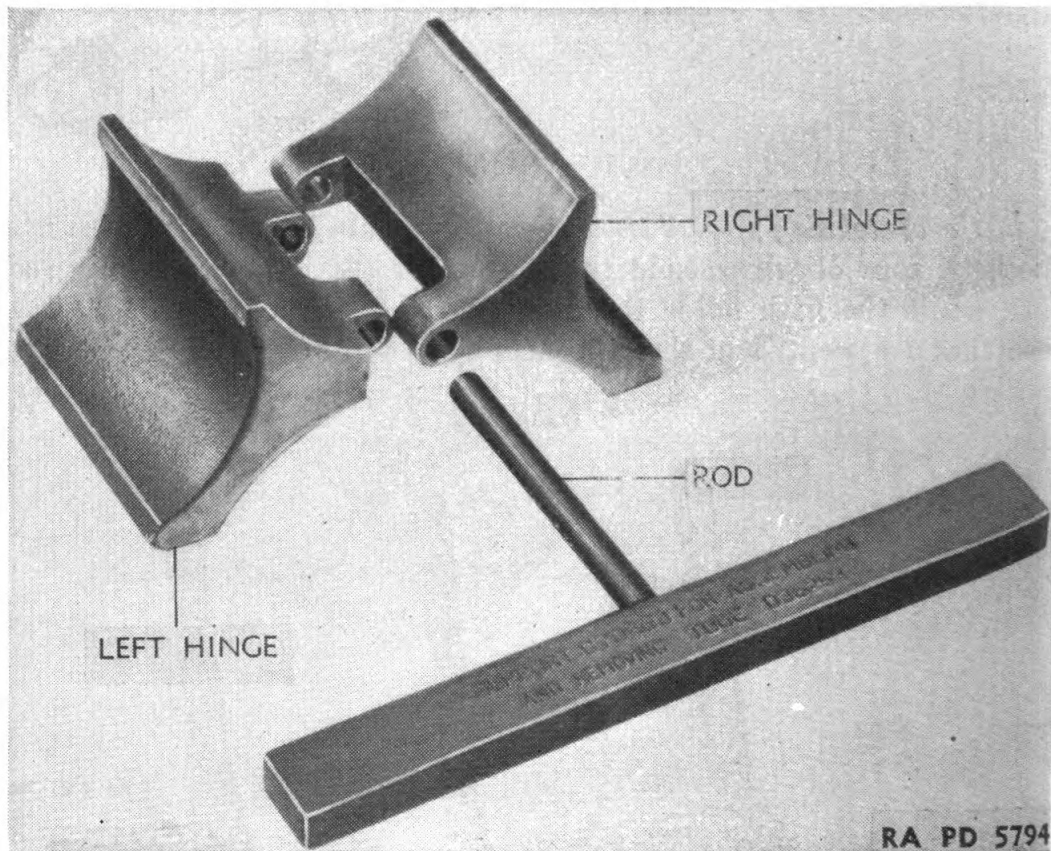

FIGURE 139.—Tube support.
(5) *Tube support* (fig. 139).—The tube support is used to support the gun tube when removing it from the gun (see par. 64 for method of handling the tube support).